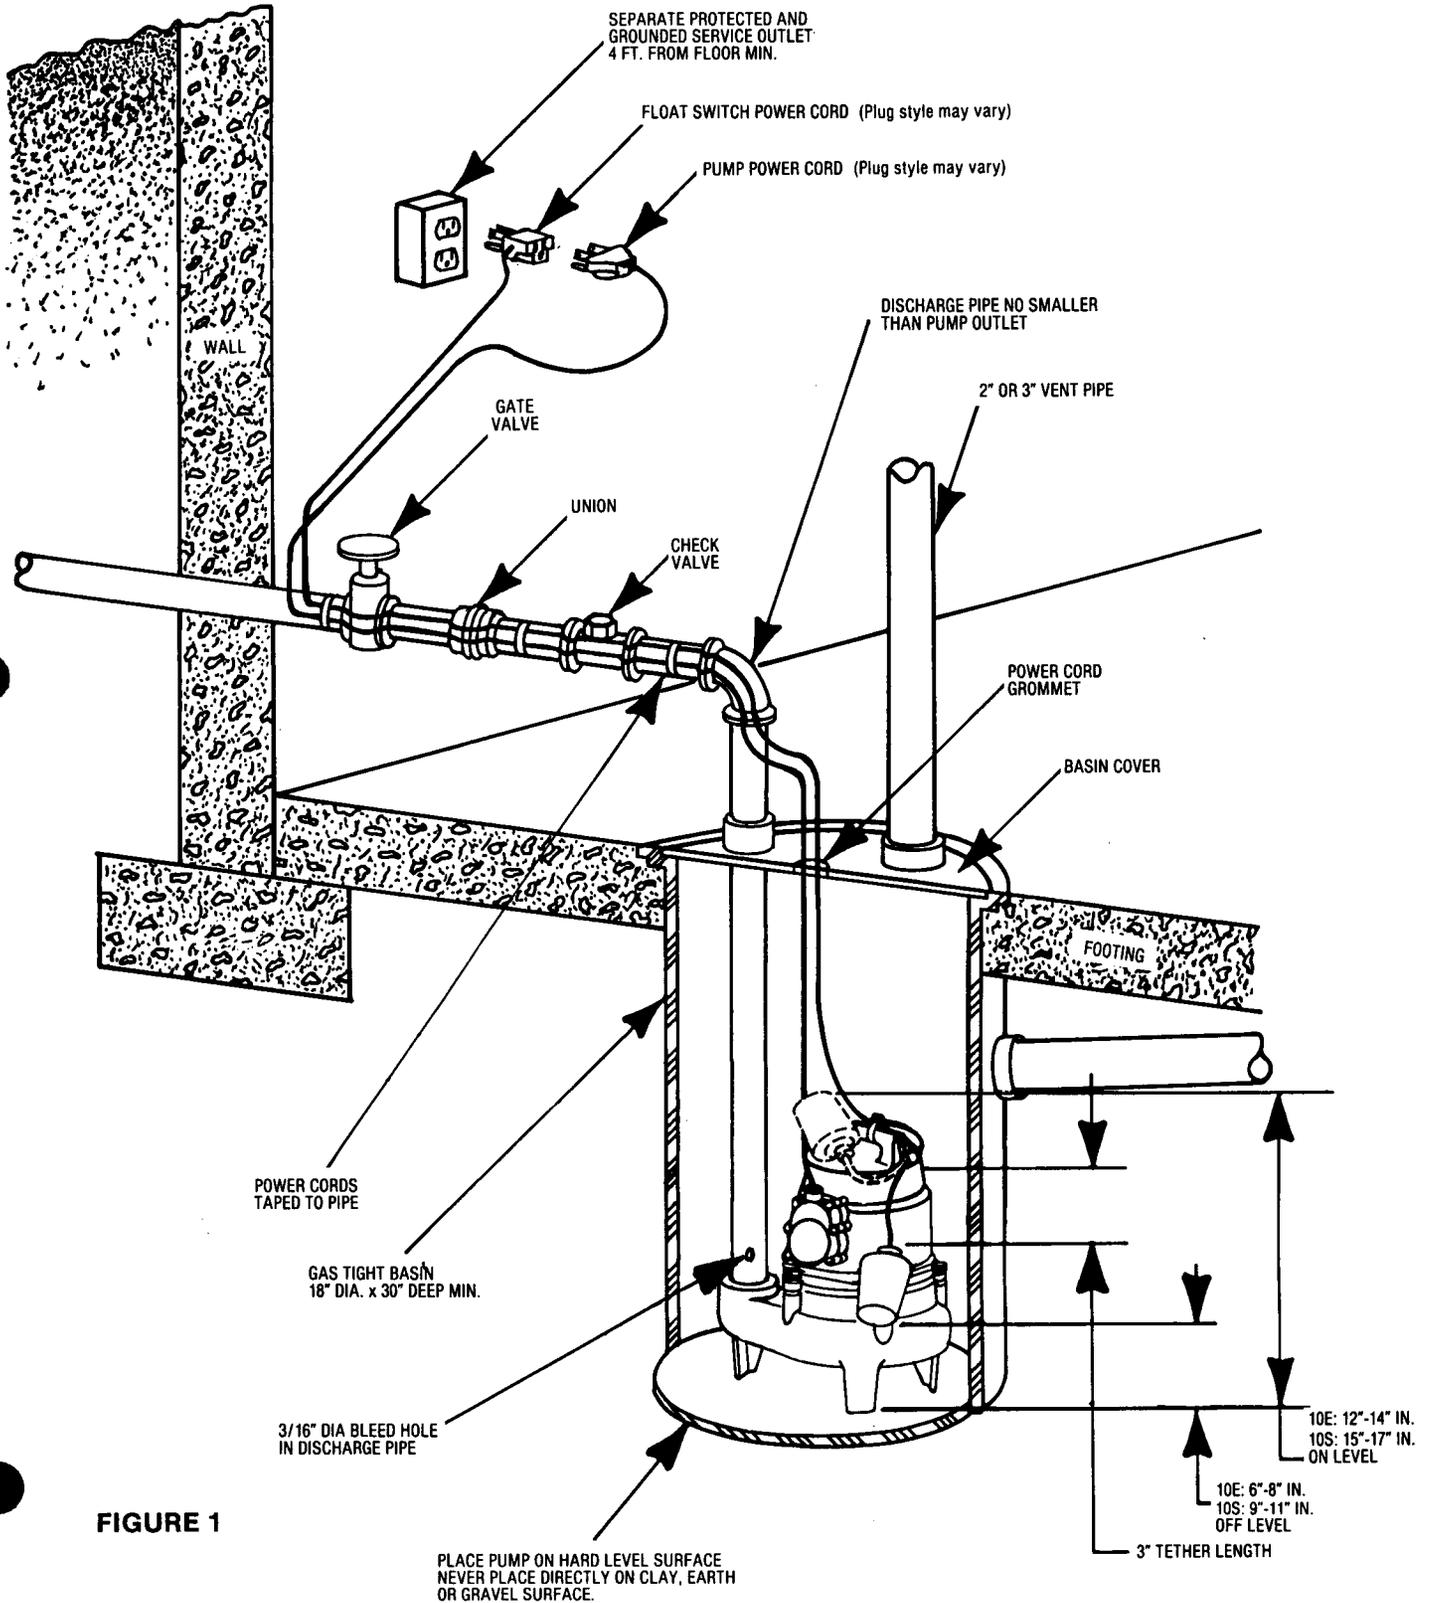

FIGURE 1
2. Attach cord clamp to pump cover as shown in FIGURE 1. The clamp must be positioned as shown to allow free operation of float. Be sure to locate pump and switch power cords away from switch float.